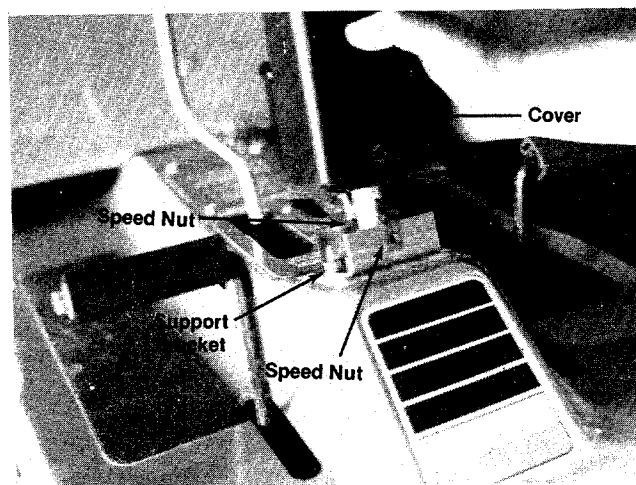

FIGURE 3.
5. Place two speed nuts on support bracket, as shown in figure 3.
6. Place the cover over the steering tube assembly, line up holes in cover with speed nuts. See figure 3.